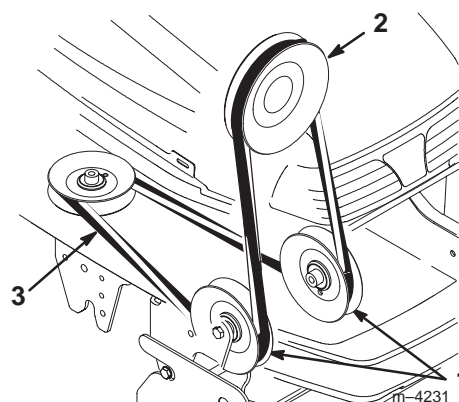

Figure 11
4. Position the belt into the groove of the PTO pulley (Fig. 11), making sure it is also under the pulleys in the pulley box.